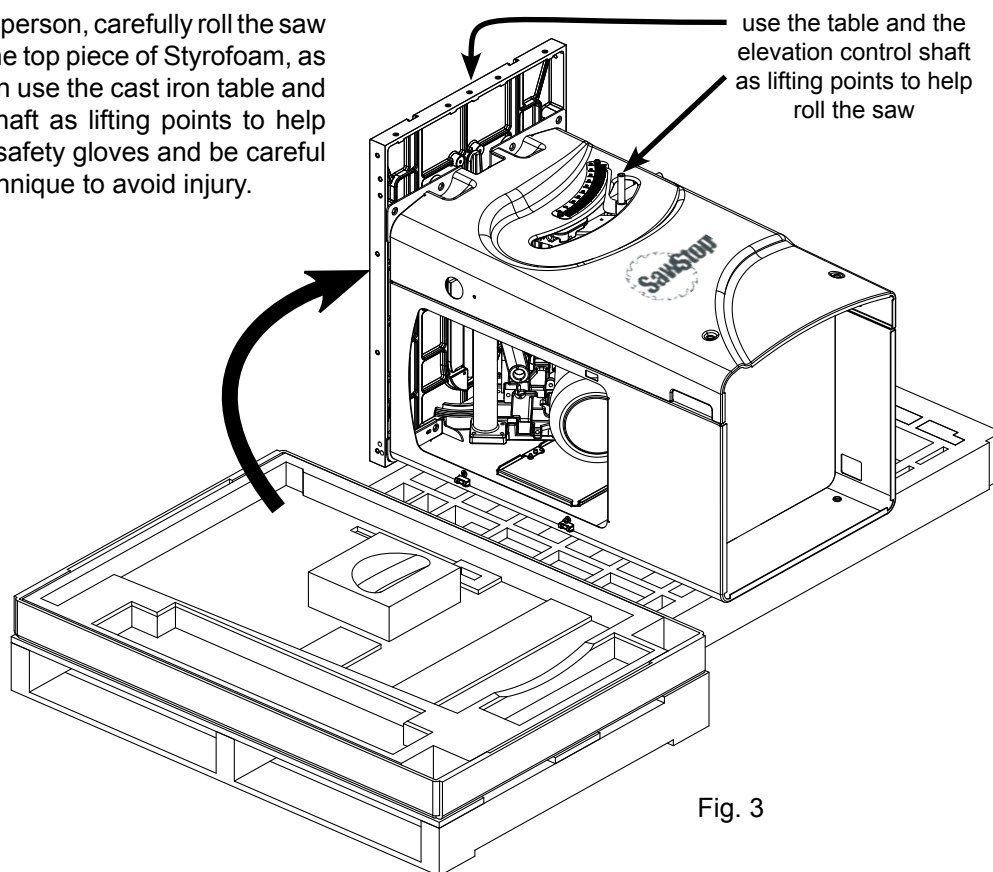

Fig. 3
3. With the help of another person, carefully roll the saw off the pallet and onto the top piece of Styrofoam, as shown in Fig. 3. You can use the cast iron table and the elevation control shaft as lifting points to help you roll the saw. Wear safety gloves and be careful to use proper lifting technique to avoid injury.